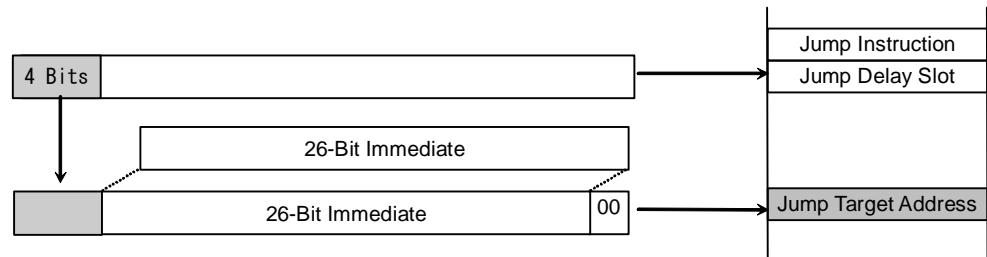

Figure 3-6 Paged Absolute Addressing (32-Bit ISA Mode)
The J, JAL and JALX instructions unconditionally transfer program control to a target address using paged absolute addressing. They generate the next instruction address by shifting the 26-bit immediate operand by two bits and merging the resultant value with the four most-significant bits of the program counter (PC). Figure 3-6 shows how the jump target address is generated by paged absolute addressing. The target address for a jump is computed from the address of the instruction immediately following the jump instruction, i.e., the address of the jump delay slot. The four most-significant bits of the PC indicate a specific page in a 16-page address space.